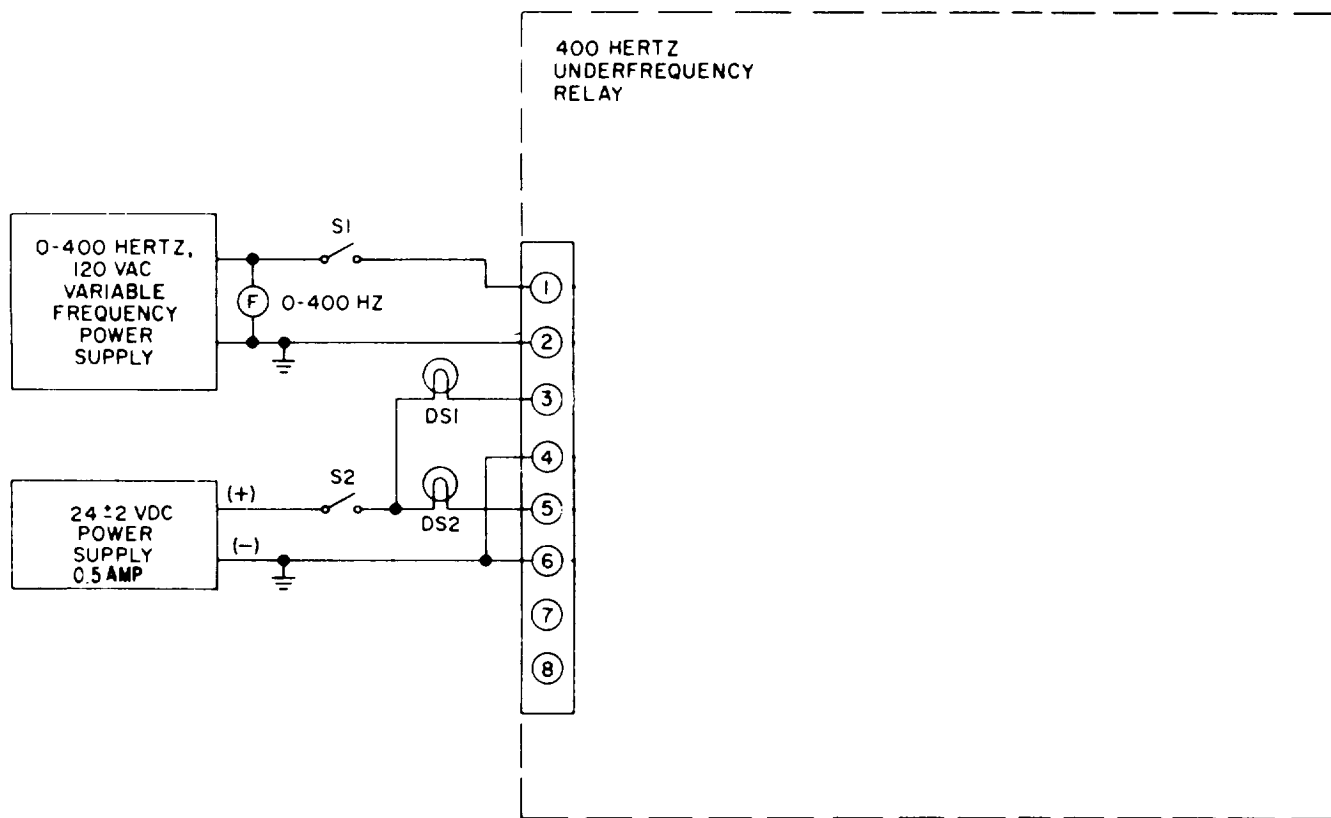

Figure 6-28. 400 hertz underfrequency relay (K12) test setup
a. Connect the underfrequency relay to the test equipment as illustrated in figure 6-28.